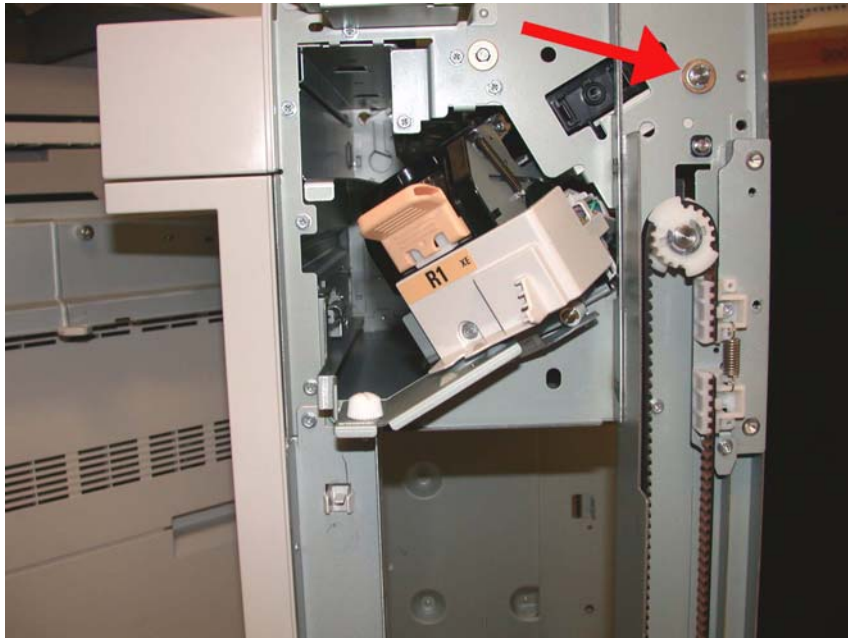

Figure 20 Installing the brass bearing and E-ring
(3) Install the brass bearing and E-ring onto the front of the Eject Roll Shaft (Figure 20).